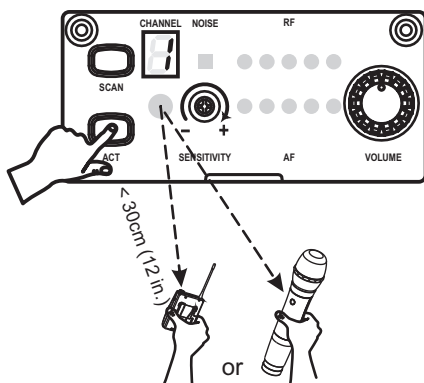

Fig. 4
III. ACT Synchronization, Fig. 4
2. Turn on the transmitter. Align the red color IR sync windows of both the transmitter and receiver at a distance of <math><30\text{ cm}</math> (12 inch), Fig. 4.